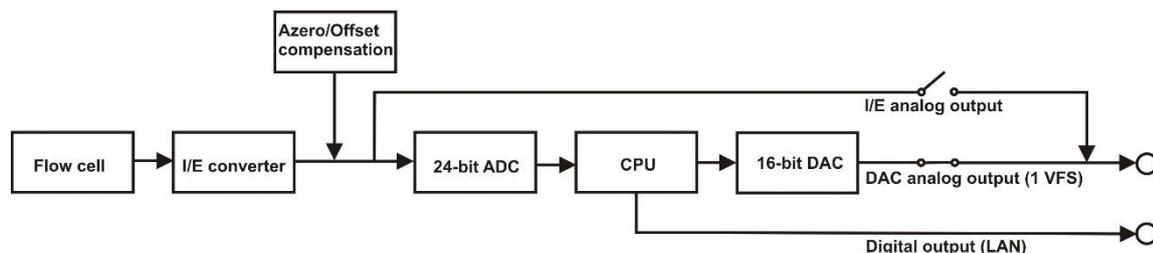

Fig. 10. DECADE Elite signal processing from electrochemical flow cell to output.
At the working electrode (WE) in the electrochemical flow cell the electron transfer takes place due to an oxidation or reduction reaction. The resulting electrical current is amplified by the current-potential (I/E) converter (Fig. 10).